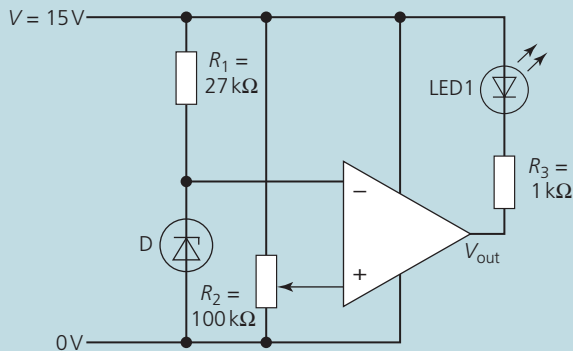

Figure 5
3. Figure 5 shows an op-amp connected as a voltage comparator. D is a Zener diode with $V_Z = 6.2\text{V}$. The positive power supply to the op-amp is connected to 15V and the negative supply to zero volts.